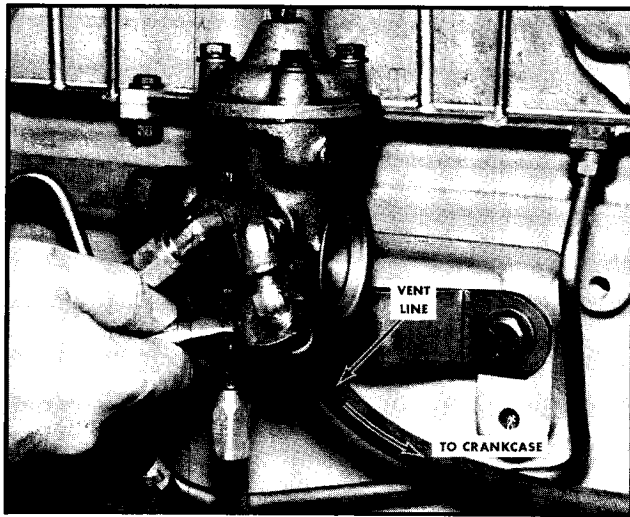

Fig. 12-86. Installing vent line to crankcase
7. Install aneroid vent line from aneroid to crankcase, above oil level. Fig. 12-86.